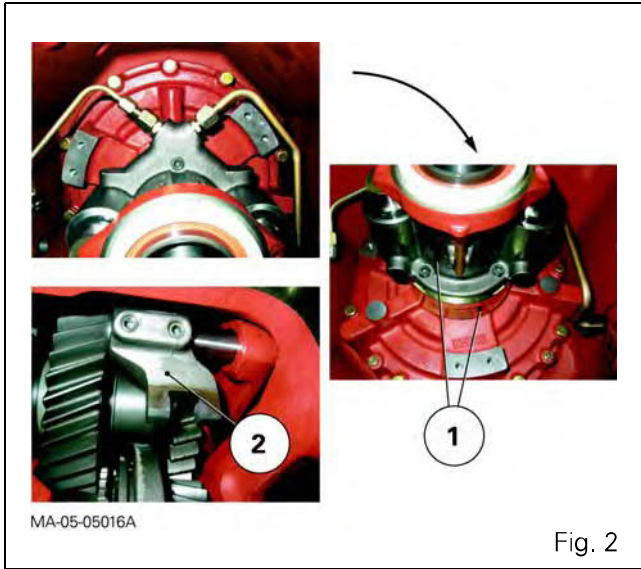

Fig. 2
3. Separate the hydraulic mechanism (1) from the input unit spacer (Fig. 2 and chapter 4)
6. Remove the selector (2) from the mechanical reverse shuttle (Fig. 2).